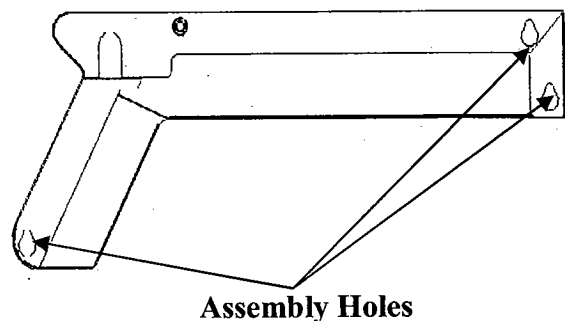
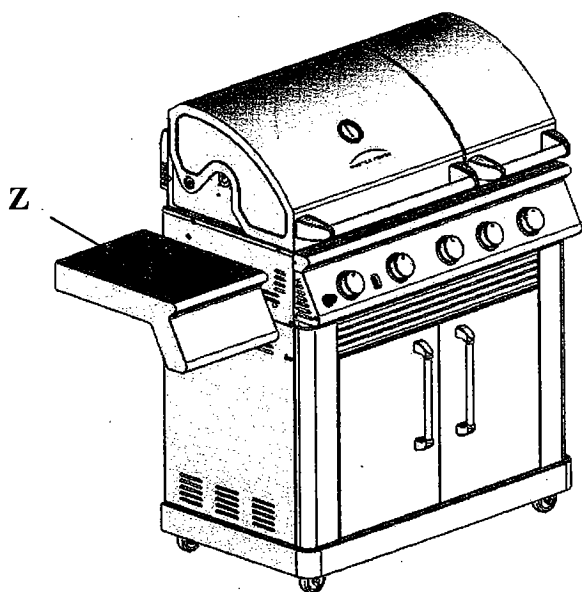
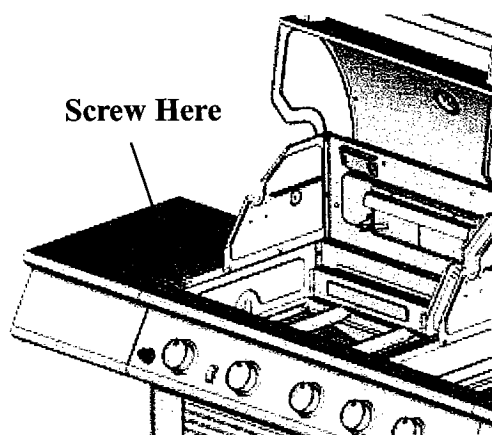

Fig. 21
Fig. 22
Fig. 23
- b. Align the side shelf holes (Fig.21) with the two screws in burner box side panel and the one in the control box side panel and push the shelf down to lock it in place. Then open the hood and use the 1/4-20 x 1 1/8-in screw (G) to fasten the side shelf (Z) from inside of the burner box. Refer to Fig. 22 & Fig. 23 (from inside the burner box). Then tighten the three screws loosened previously.